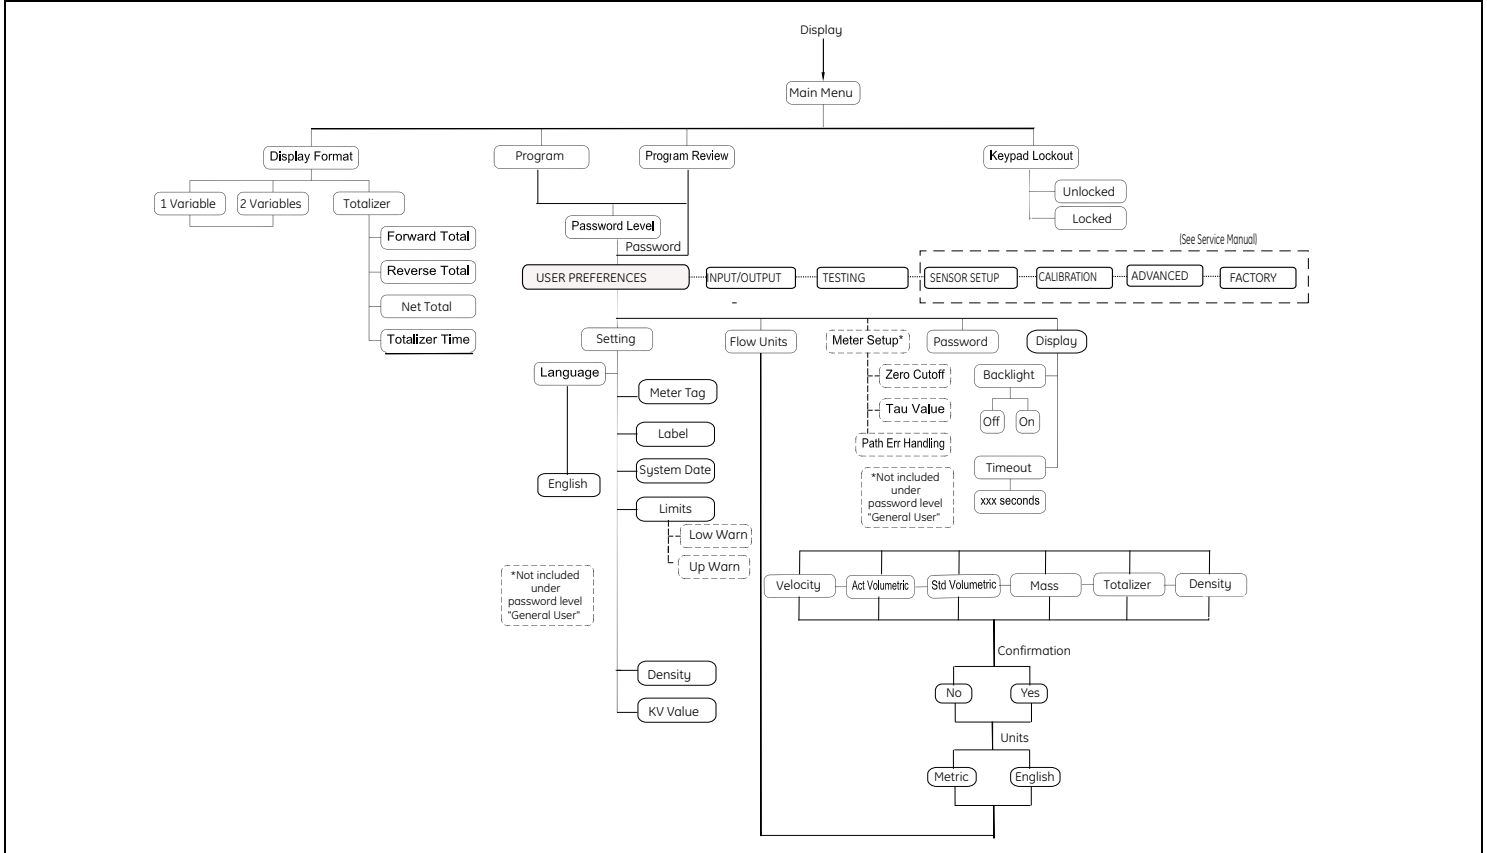

Figure 25: Display Menu Map
- Figure 25, “Display Menu Map,” on page 83